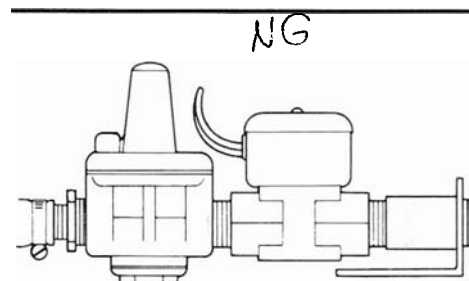
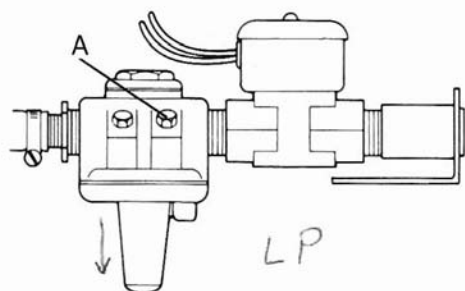

Figure 14—Natural Gas (NG)
Figure 15
1. To convert from natural gas (NG) to propane (LP) Fig. 14 to Fig. 15.
- d. Invert the regulator so it is positioned as shown in Fig. 15.
- f. Remove the 1/8 NPT plug (on solenoid side of regulator) and install fuel pressure meter (or manometer). See Ref. "A" on Figure 15. Turn the selector switch to "check". The engine will crank and the fuel solenoid valve will open. Observe the incoming pressure. The pressure reading should be between 4 to 6 ounces (see column 4 of table 1).
2. Converting from propane (LP) to natural gas (NG) Fig. 15 to Fig. 14.
- c. Invert the regulator so that it is positioned as shown in Fig. 14.
- e. Remove the 1/8 NPT plug (on solenoid side of regulator) and install fuel pressure meter or manometer. See Ref. "A" in Fig. 15. Turn the ATS selector switch to "check". The engine will crank and the fuel solenoid valve will open. Observe the incoming pressure. The pressure reading should be between 4 to 6 ounces (column 4 of table 1).
- h. Turn selector switch to "check" position. This will energize the starting system. Although the regulator may not be exactly at the optimum position, the engine should start. Adjust the spring adjusting plug to obtain a positive (+) 5 inch water column (WC) or 2.5 to 3 oz. PSI reading on the carburetor side of the regulator with the engine running at no load.